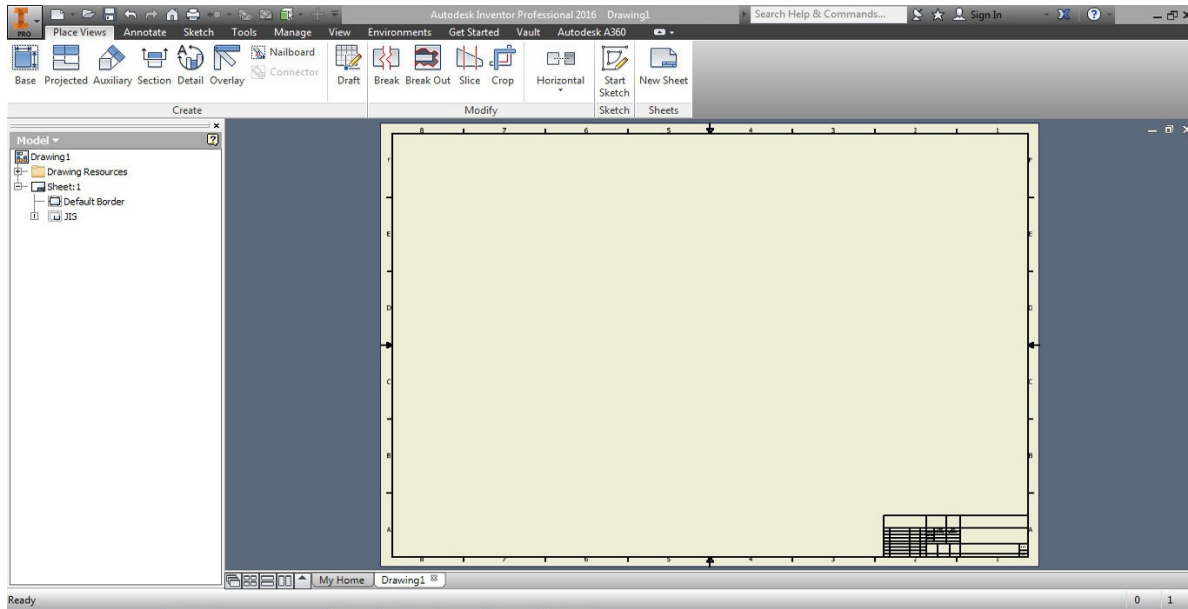

Figure 11-46 Screen display of the JIS standard drawing file
2. Choose the **Metric** tab and then double-click on the **JIS.idw** option to open a JIS standard drawing file, see Figure 11-46.